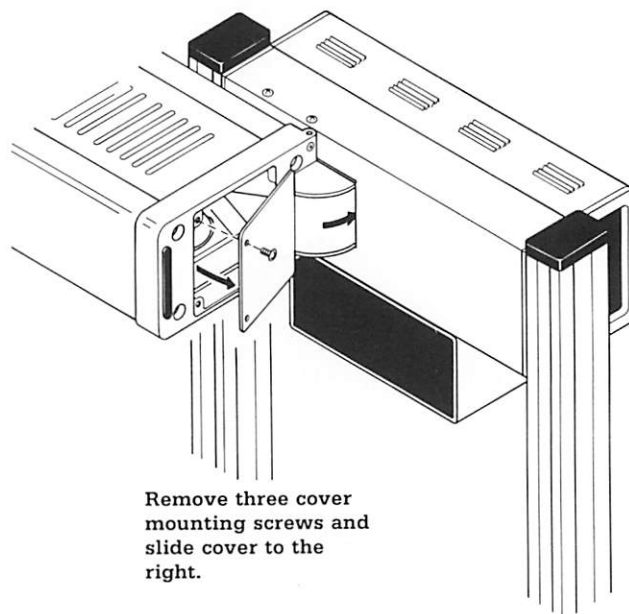

Figure 5-4. Examination Lamp Cover Removal.
E. Examination Lamp Replacement (Figures 5-4 and 5-5)